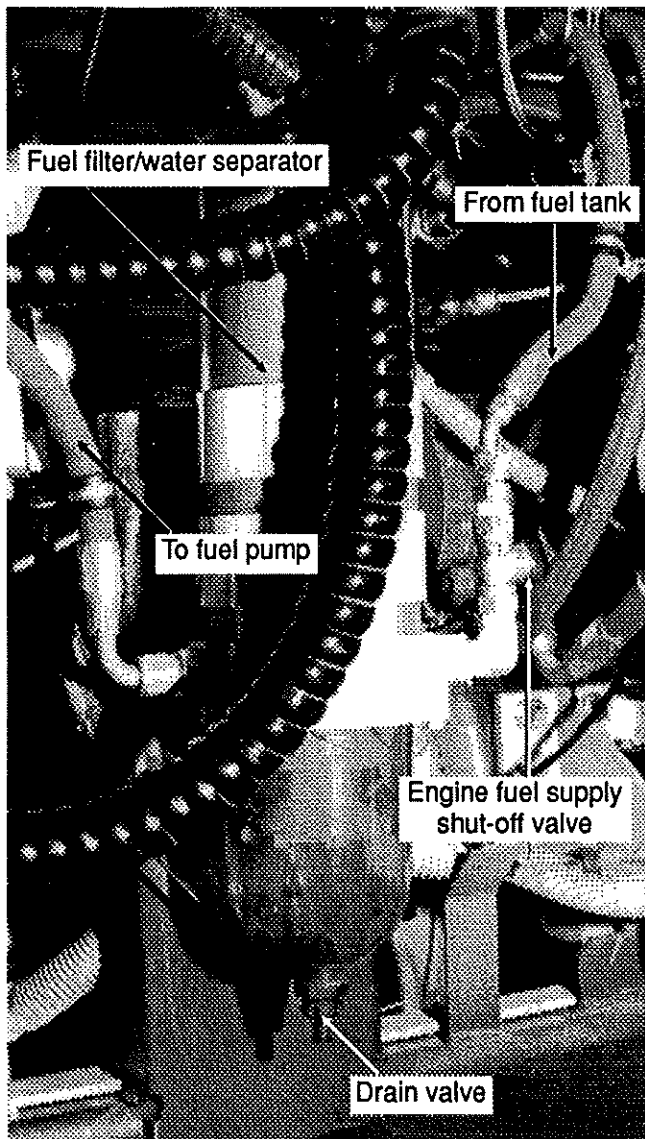

Fig. 3
The filter/water separator, as well as its brackets and fuel line connections, are illustrated in figure 3. Neither of their element or cartridge is cleanable and must be replaced when dirty or clogged. For maximum efficiency, service filters as follows.
1. With engine off, close the valve of the engine fuel supply line. Refer to figure 3 for valve location.